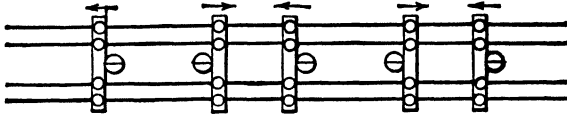

FIG. 11-35. Facing crossarms on straight lines. Every second pole has crossarm facing in the same direction.
**Straight Lines.** On straight lines it is customary to set adjacent poles with the gains facing in opposite directions (Fig. 11-35). This is sometimes expressed as "gain to gain" and "back to back." This provides for the maximum strength in the line.